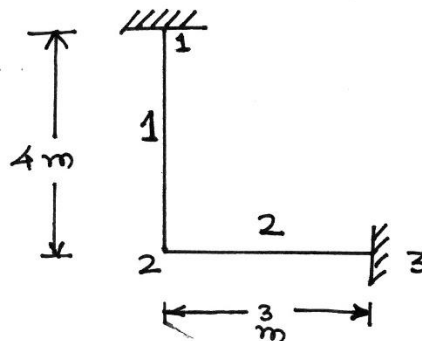

Fig. 4
5. Find displacement at node 2 of the grid structure shown in fig. 4 member 1 is loaded with uniformly distributed load of 20 kN/m and on member 2 concentrated load of 50 kN is acting at centre.